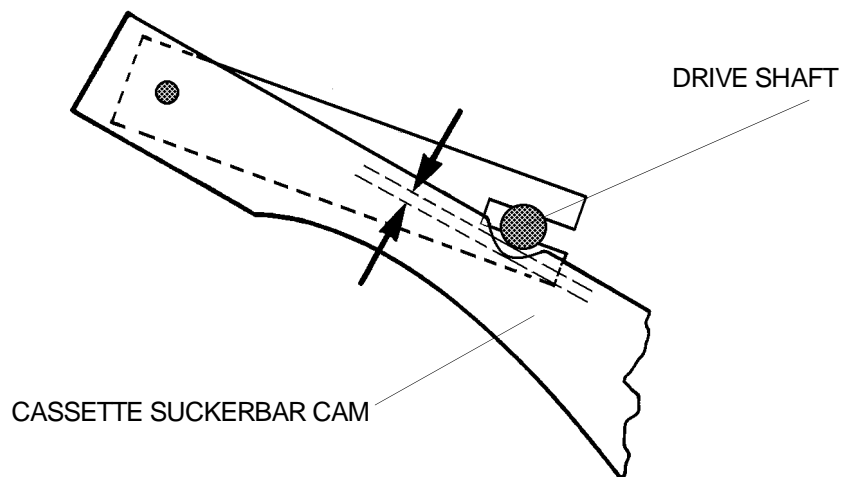

figure 29
- 11.** Move CASSETTE SUCKER BAR in TAKE position: Press key 1.
- 12.** The CASSETTE SUCKER BAR has to be placed on OPENER GAUGE 9193386 as shown on figure 29.